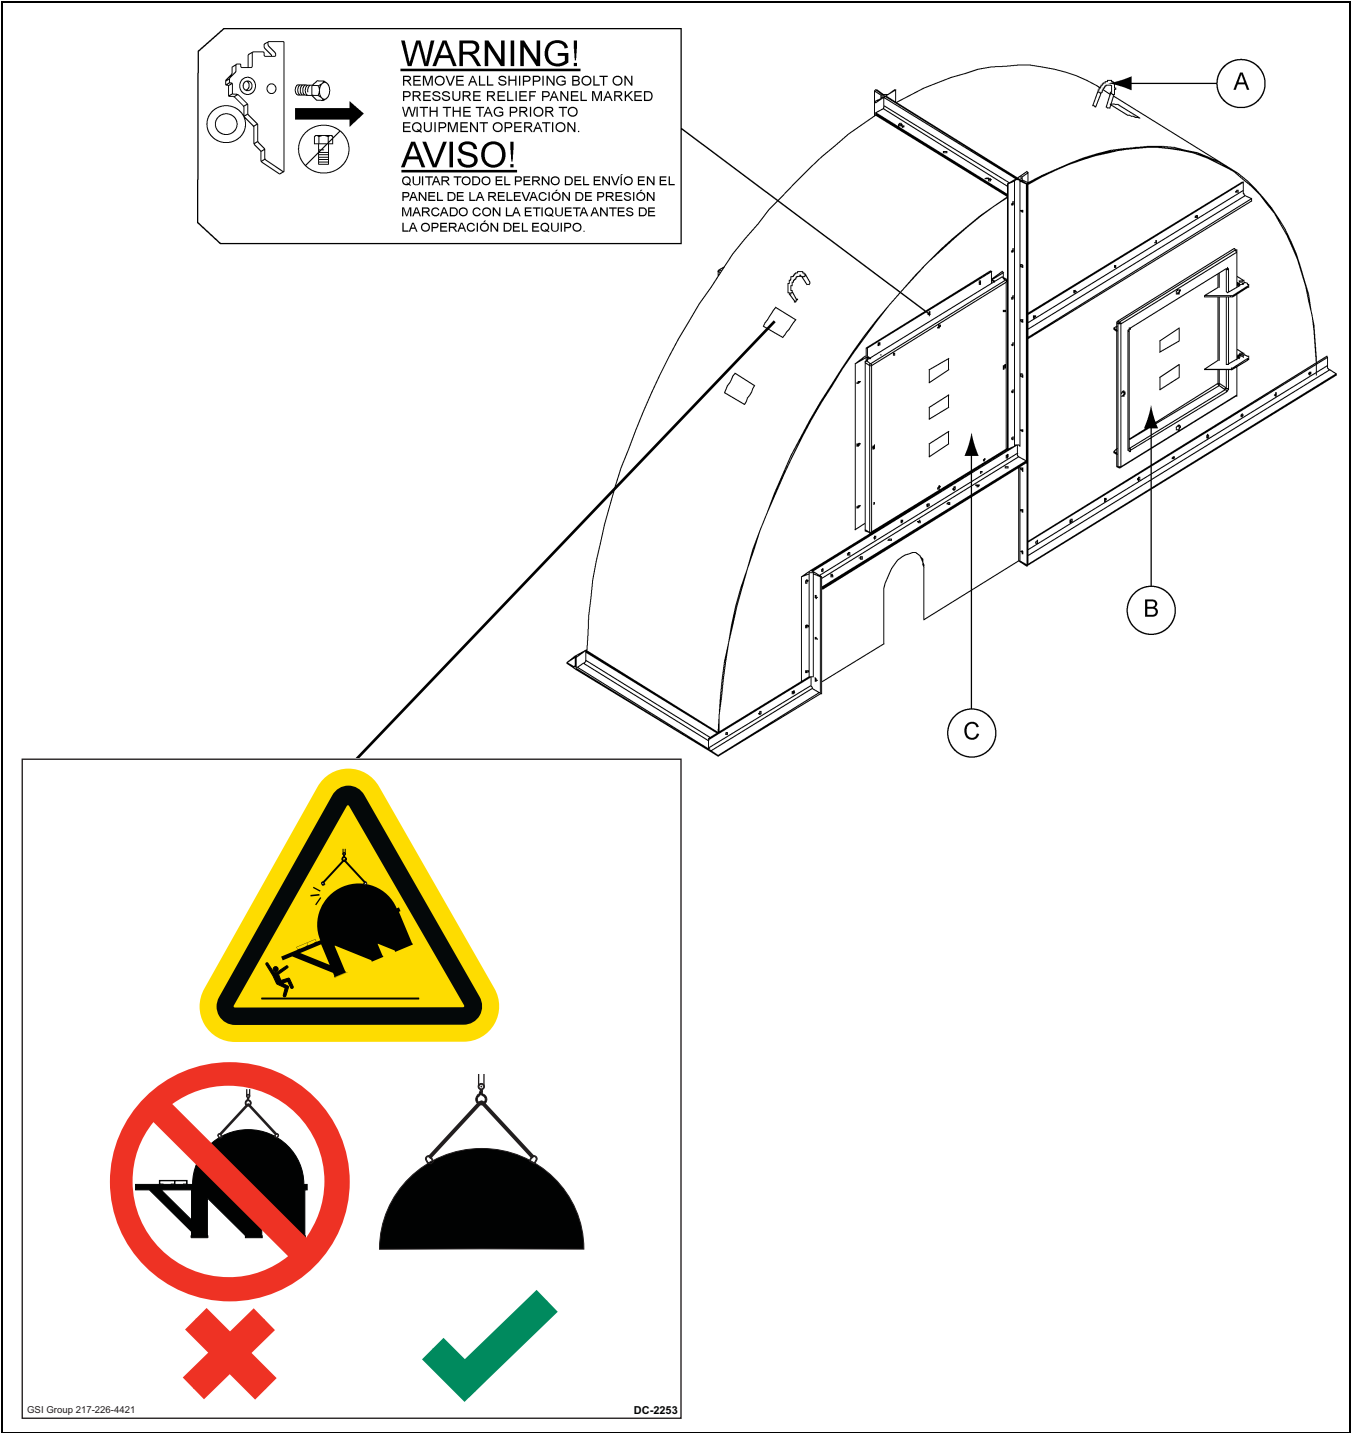

Figure 8B Head Bonnet
4. Hardware used to attach bonnet section to head section is included. (See Figure 8B on Page 28.)